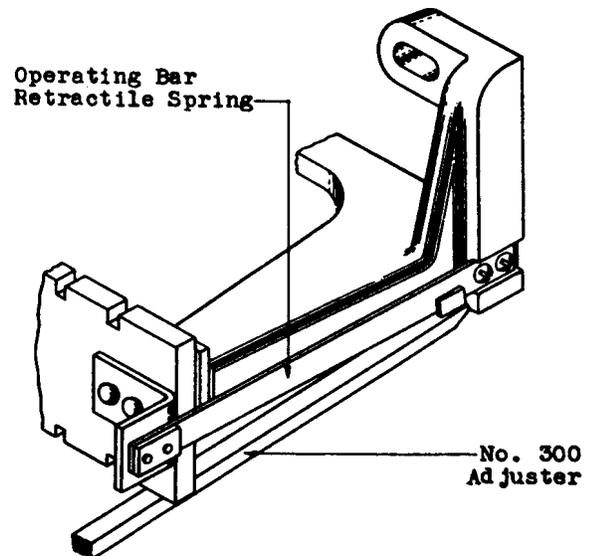

Fig. 17 - Method of Adjusting Retractable Spring Tension
(1) To adjust the pressure of the roller against the cam, adjust the operating bar retractile springs near their points of support with a No. 300 adjuster as shown in Fig. 17. Notice that in the case of normally open spring combinations, the pressure of the operating springs is added to the pressure of the retractile springs when the roller is resting on that portion of the cam cutting nearest the center. If the pressure